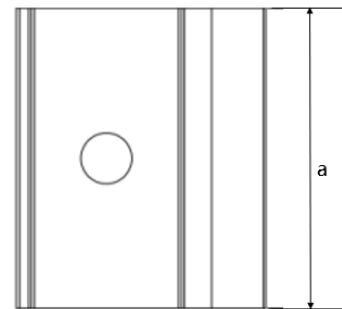
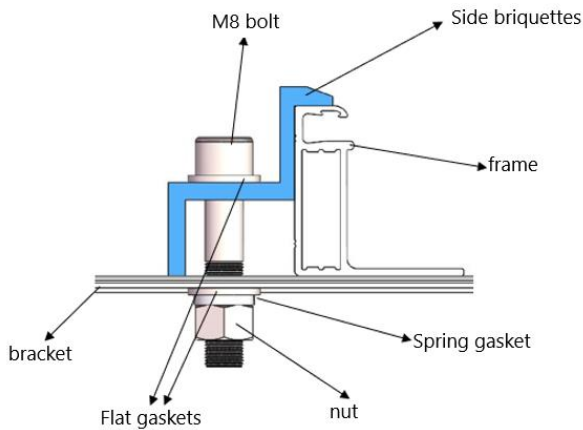

Figure 14 Top view of fringe clamp
Figure 16 Installation schematic diagram of fringe clamp
- ③ The top surface of the rail contacted with module frame should be equipped with grooves compatible with an M8 bolt.
- ④ If the grooves are not provided, holes of a suitable diameter may need to be drilled to allow bolts attaching to the rail at the same locations as mentioned above.
- ⑤ Ensure that the mounting sequence of each clamp is in the order of flat washer, spring washer and nut.
- ⑥ Figures 14 and 15 show the schematic diagram of the clamp, while Figures 16 and 17 show the installation schematic diagram of the clamp. The dimensions of the clamp are $a \geq 40$ mm, $b \geq 16$ mm, $c \geq 5$ mm, $d \geq 8$ mm, $e \geq 15$ mm, $\varnothing = 9$ mm, and the thickness of the clamp is ≥ 3 mm. For module of 182/210mm-wafer, the size of mid and fringe clamp must meet $a \geq 60$ mm. The tightening torque is suggested to be 17~23Nm for Class 8.8 screw and bolts.